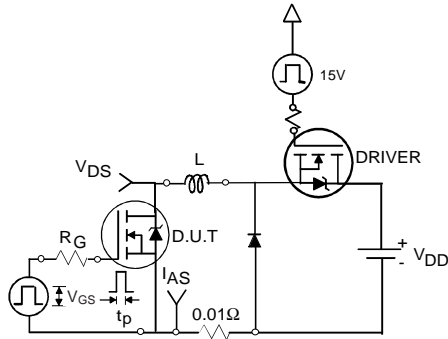

Fig 12a. Unclamped Inductive Test Circuit
3. Equation below based on circuit and waveforms shown in Figures 12a, 12b.